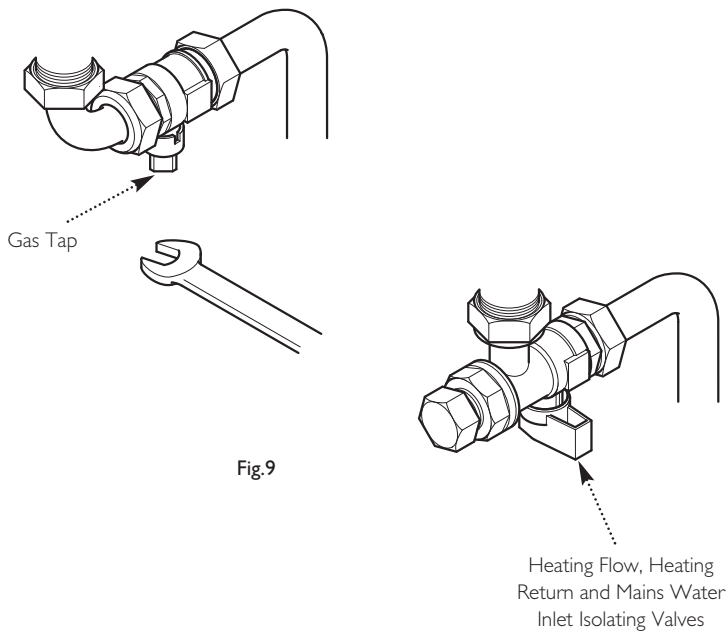

Fig.9
1. Using a suitable open ended spanner, turn the square nut on the gas tap through 90° (1/4 turn) to isolate the gas supply at the boiler (Fig. 9).
2. The water isolating valves are positioned under the boiler and can be closed by turning their taps to the right towards the wall (Fig. 9).